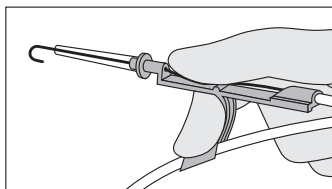

Fig. 3
- Using your thumb, straighten the “J” by retracting the spring-wire guide into the Advancer™ (refer to Figs. 3, 4).